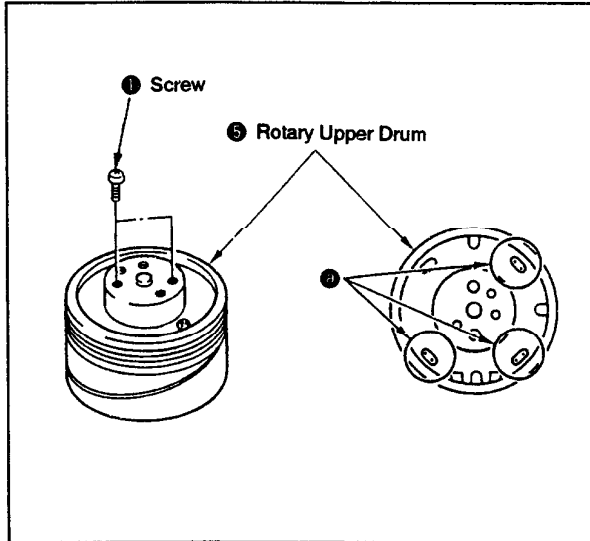
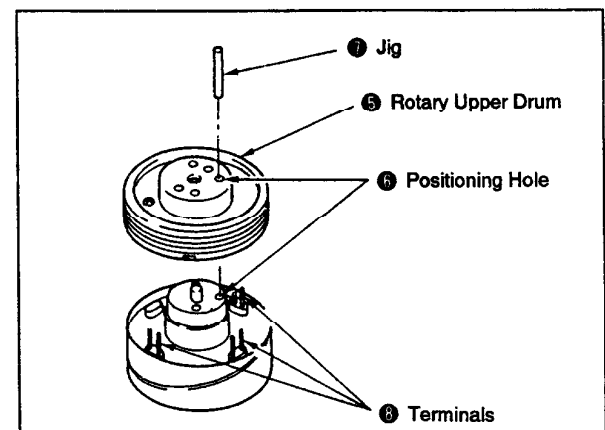

Fig. 3-22.
Fig. 3-24.
- 1) Detach the six solderings ①, then use a pair of tweezers or the like to confirm that the terminals passing through the board holes from below can move freely.
- 2) Remove the two screws ② (See Fig. 3-22).
- 1) Wipe clean the flange surface and the rotary upper drum ⑤ surface that makes contact with it, and confirm that they are free from dirt and scratches.
- 2) Insert the jig ⑦ (Ref. No. J-7) into the drum positioning hole, then set the rotary upper drum ⑤ by passing the jig through its positioning hole ⑧.
- Note:** Confirm that the terminals ⑨ protrude slightly from the rotary upper drum board holes (See Fig. 3-24).
- 3) Remove the jig ⑦ and push down the rotary upper drum ⑤ gently by hand. If it does not go all the way down, secure it temporarily by tightening the two hexagon socket screws ① alternately.
- 4) Insert the jig ⑦ into the positioning hole ⑧ again and confirm that it goes in smoothly. If it does not, loosen the two screws ①, repeat step 3 of the Removal paragraph and restart the setting procedure.
- 5) Tighten the screws ①.
- 6) Solder the terminals ⑨ (⑩ in Fig. 3-22).